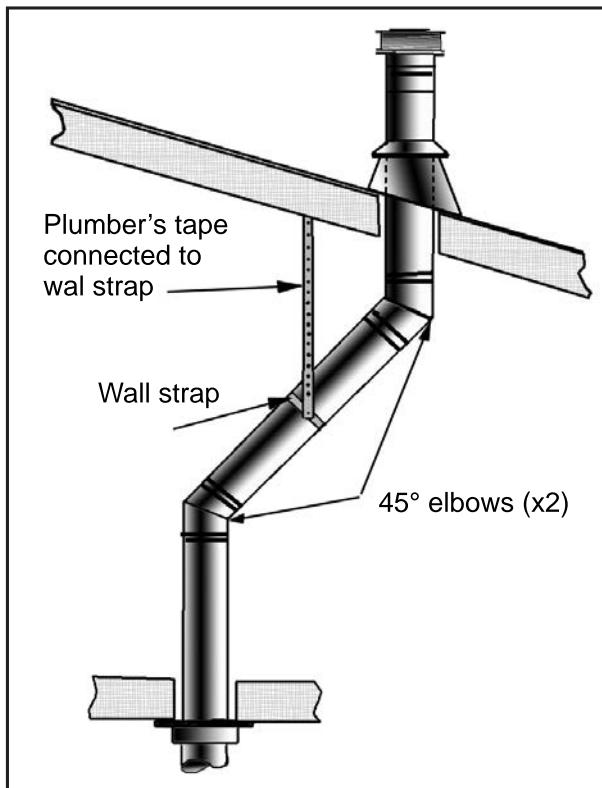
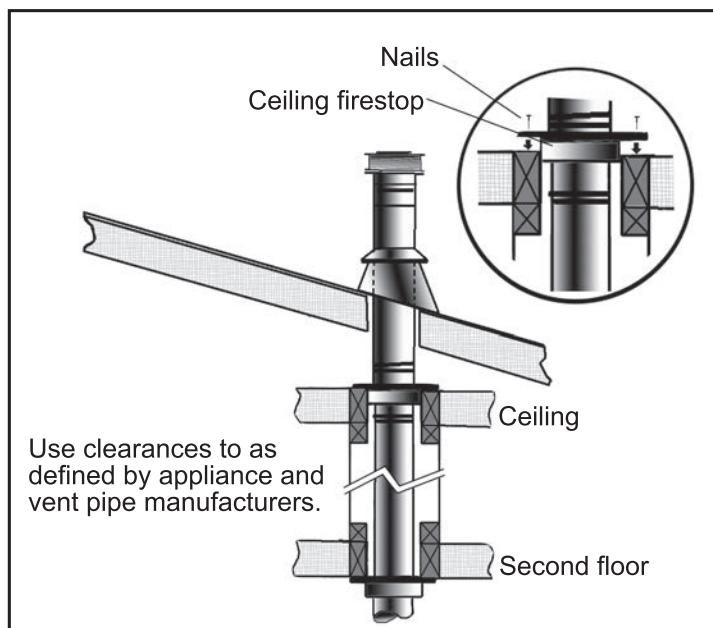

Figure 59: Use of Wall Straps.
Figure 60: Multi-Story Vent Pipe Installation
- (1) If an offset is necessary in the attic to avoid obstructions, it is important to support the vent pipe every **3' (914 mm)**, to avoid excessive stress on the elbows, and possible separation. Wall straps are available for this purpose (see Figure 59).
- (2) When ever possible, use 45° degree elbows instead of 90° degree elbows. The 45° degree elbow offers less restriction to the flow of flue gases and intake air.
- (3) For multi story installations; a ceiling firestop is required at the second floor, and any subsequent floors (see Figure 60). The opening should be framed to **10" (254 mm) x 10" (254 mm)** inside dimensions, in the same manner as shown on page 36.